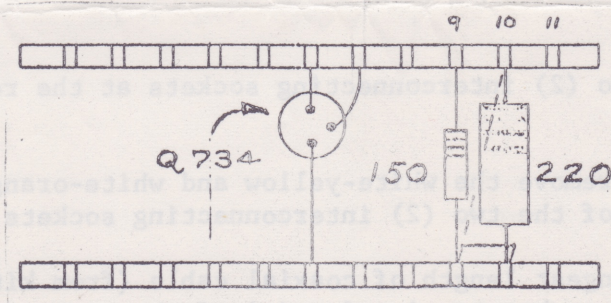

FIG. 1
NOTE: If your instrument does not have the strap shown in dotted lines between the 150 Ω and 220 Ω resistors, as indicated in Fig. 1, disregard Steps 8 through 11.
- () 8. Remove the 220 Ω , 2 w. resistor (R744) from notch 10 of the ceramic strips (see Fig. 1).
- () 9. Remove the end of the strap (shown in dotted lines) from notch 10 of the upper strip, trim it and resolder to notch 10 of the lower strip (see Fig. 1).